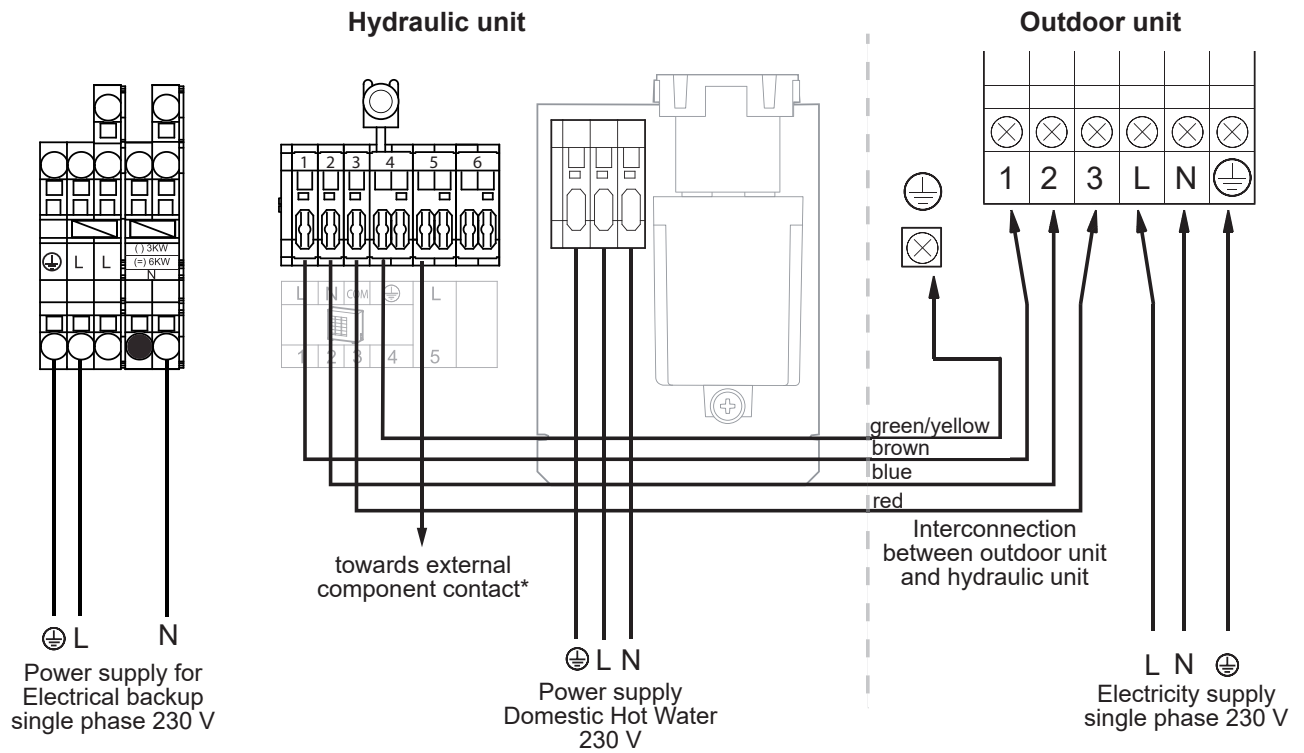

fig. 44 - Connection to terminal blocks and power relay
- Make the connections according to the diagram (fig. 44, page 39).